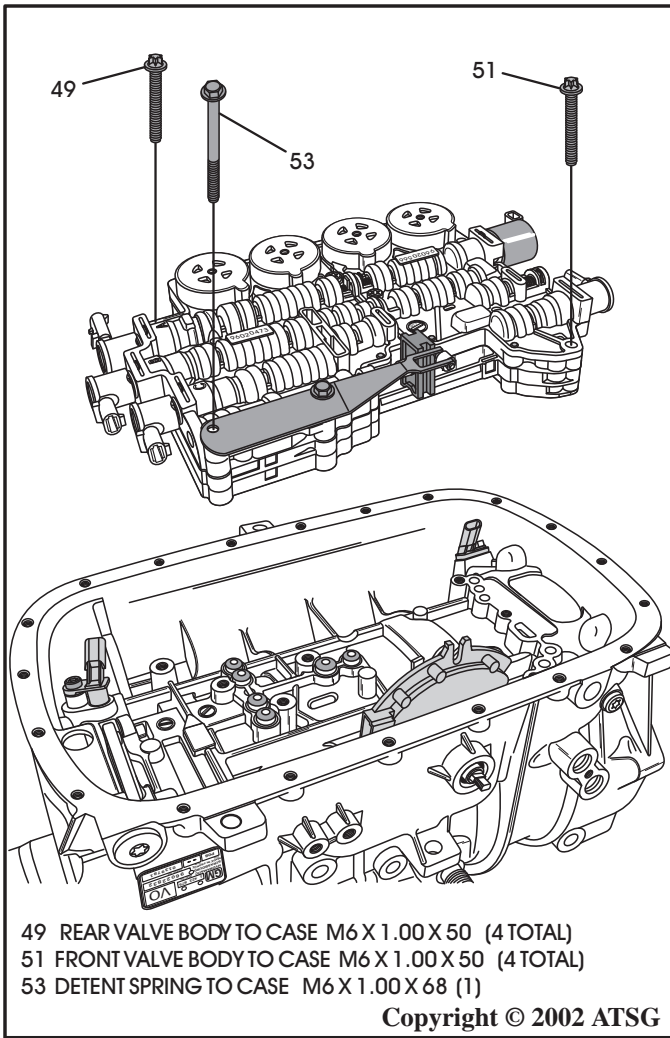

Figure 39
29. Remove the valve body assembly from the case as shown in Figure 39, and set aside for the component rebuild section.